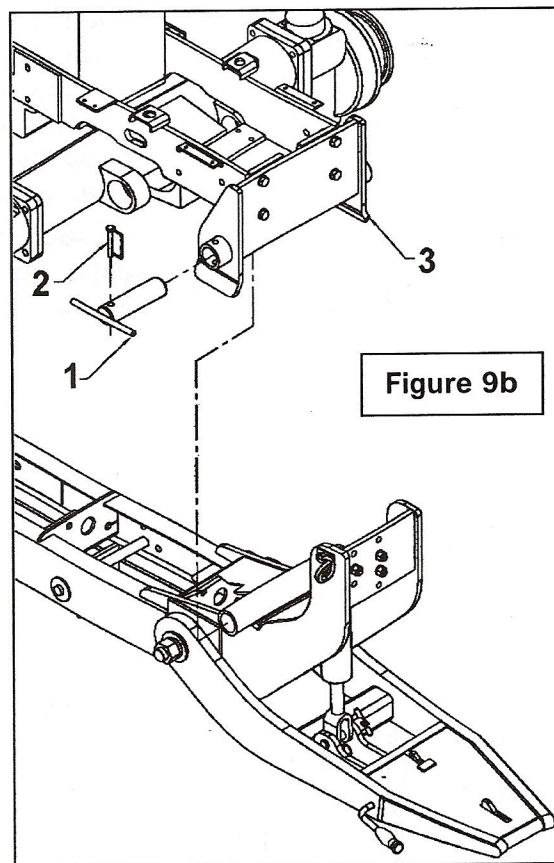

Figure 9a
- Sit on the operator's seat, start the engine and slowly compress the cylinder (item 2) using the hydraulic valve lever. This operation will raise the subframe (item 6).
- Make sure that the rear of the subframe (item 6) is well aligned with the tractor draw bar (item 5) and shut off the engine. Insert the draw bar between the two pins on the rear subframe (item 6) and secure the draw bar (item 5) to the tractor in position "D".
Step 3: (Figure 9a)
- Using a lever arm (not included), raise the male quick hitch nose and insert a 3" thick wood block (item 7, not included) under the quick hitch nose.